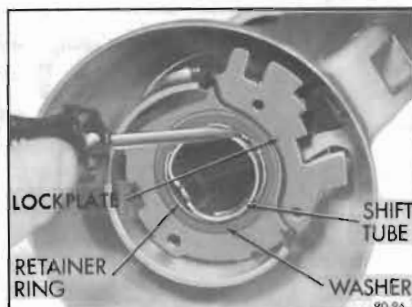

Figure 90-96—Removing Shift Tube Retainer Ring
3. Remove the shift tube retainer ring and washer from the top of shift tube. See Figure 90-96.